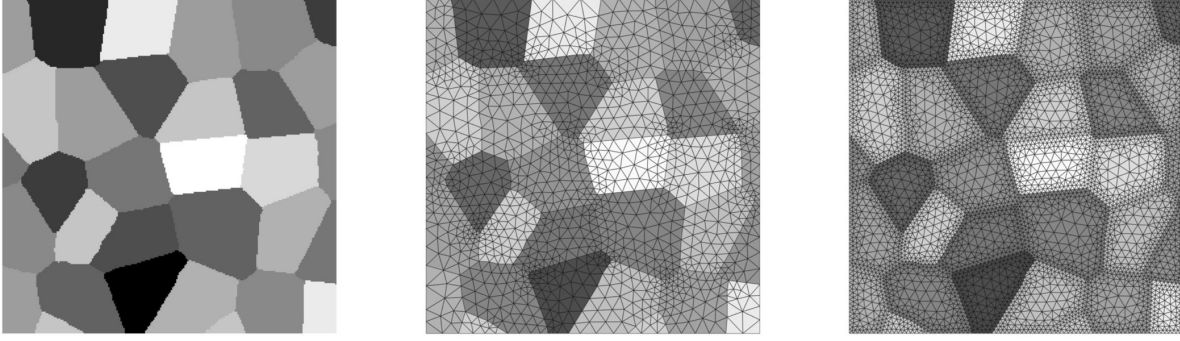

Figure 12: Refine mesh near polygonal boundary
- *Size at Boundary*: Element size at constraint edges (i.e., polygonal boundary). This parameter is introduced by me to refine mesh near polygonal boundary (Figure 12), which maybe useful in some cases. If you don't need to refine mesh near boundary, you can set *Size at Boundary* to 0 or a value < 0.05 or ≥ 500 .